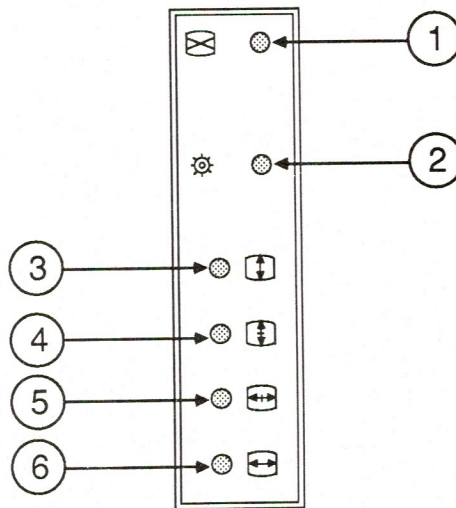

FIGURE 4
2. Insert the plastic screwdriver in the subbrightness (cutoff) control (Figure 4, #2), and twist it until the second bar from the left is black at its center.
2. Insert the plastic screwdriver in the horizontal size control (Figure 4, #6) and twist it until the raster is 213.5 mm wide.
2. Insert the plastic screwdriver in the vertical size control (Figure 4, #3) and twist it until the raster is 160 mm high.
2. Insert the plastic screwdriver (tweaker) in the focus control (Figure 4, #1), and adjust the focus for the best clarity at the center of the screen.